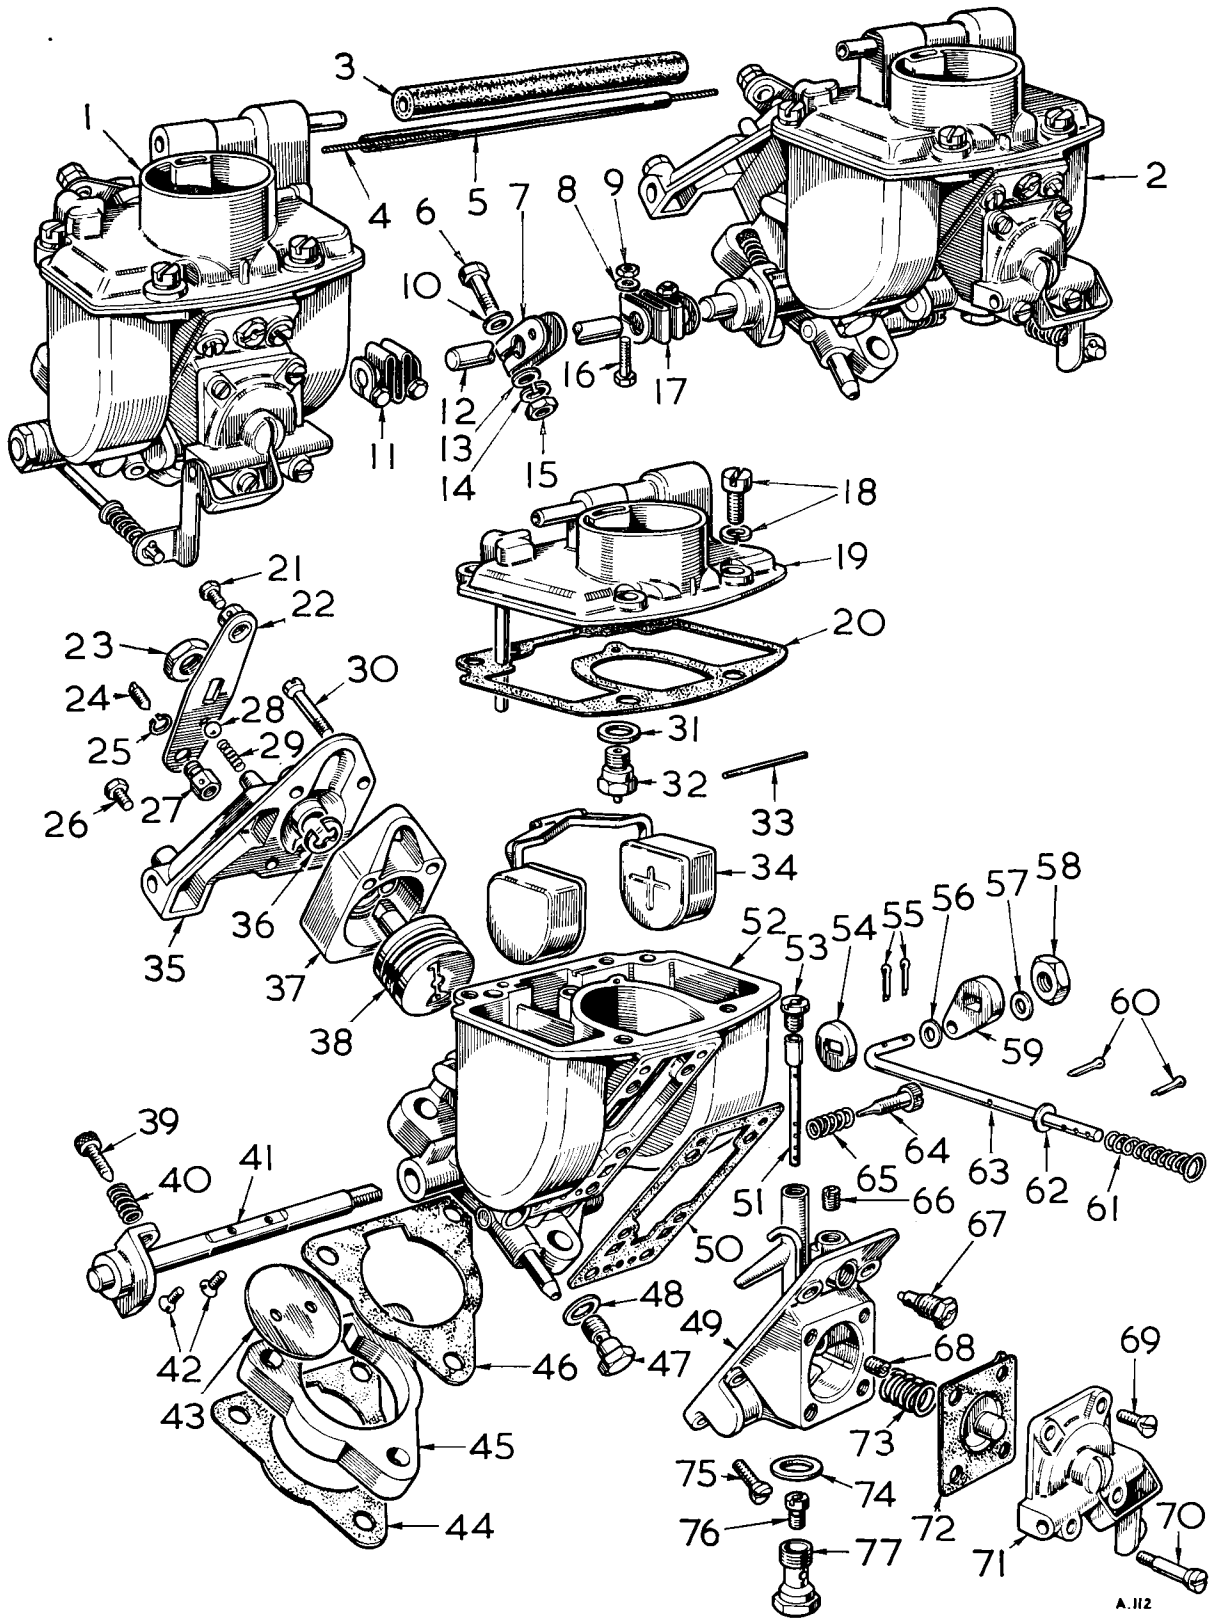

Fig. 27. Exploded B32 P1H semi-downdraught carburettor
Key to Fig. 27
1. Remove the pump jets (68), Fig. 27, and fit blanking plugs, Part No. 512087.
2. Disconnect and remove the pump operating rods (63).
3. Remove the operating arms from the diaphragm covers (71), by drifting out the securing pins.
Removal (Fig. 27)